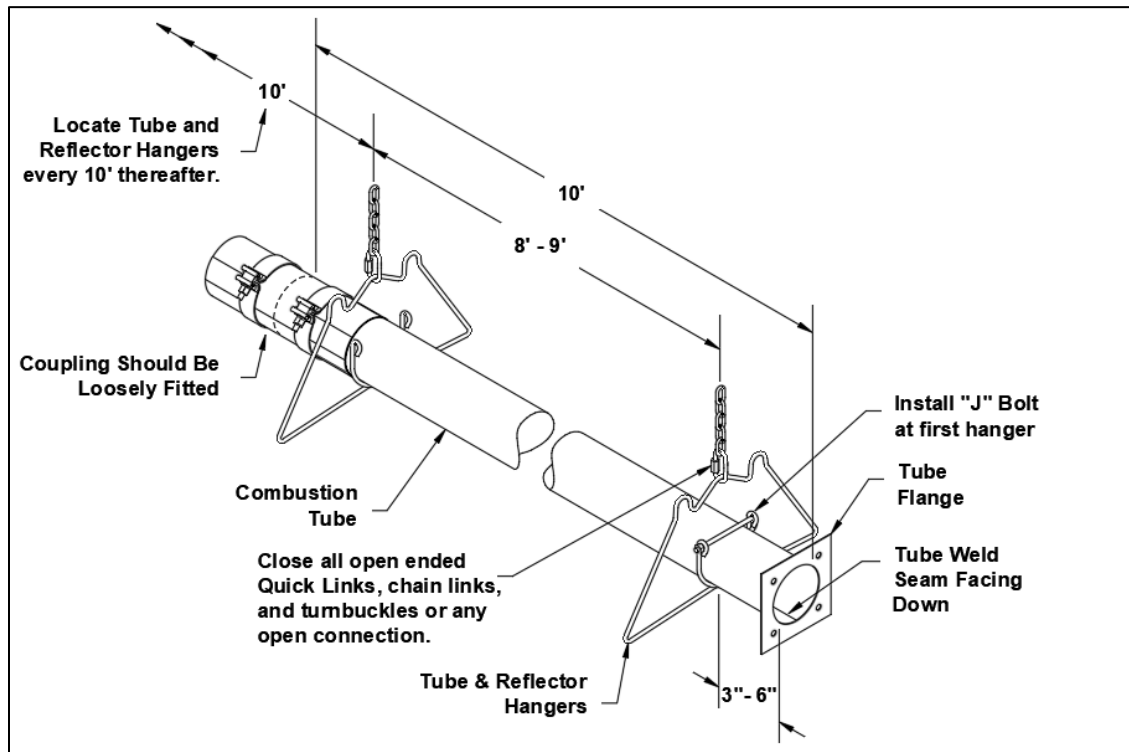

Figure 6: Installation of First section of Flanged Tube
- Place the first (flanged, aluminized) tube in the first two hangers (Figure 6). Be sure the flange is toward the intended burner location. The other end of the tube should have the first coupling already loosely fitted.
- Always use all the hangers supplied. As a rule the combustion tube (first tube) utilizes 2 hangers and thereafter 1 hanger per 10' section. It is required that the first hanging point be 3" to 6" from the burner mounting flange, and tube weld seam must face down, refer to Figure 6 for more details.